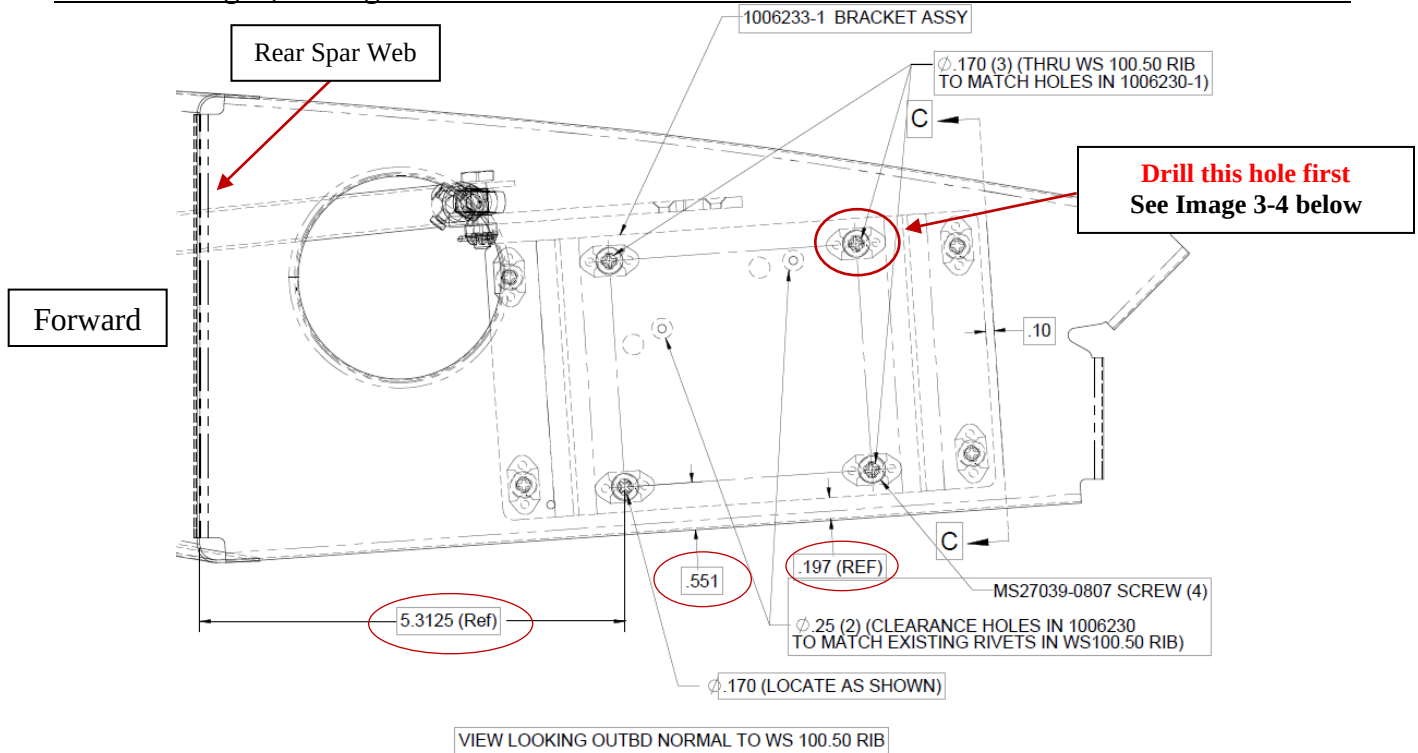

FIGURE 3-4 ROLL SERVO & MOUNTING PLATE INSTALLATION
3. Drill from outside the aircraft as depicted in Figure 3-4.
6. Using the drill template as a guide and a #40 HSS drill bit, center punch and drill the upper aft hole through the WS 100.5 trim piece. Refer to Figure 3-2 and Figure 3-4.
16. The roll servo was drilled with two 0.250" rivet clearance holes for the trim piece riveted to WS 100.5. Refer to Figure 3-4 and 3-6.
2. Secure the Pitch Servo Mounting Tray, to the ZEE Angles, using four (4) Silver 3/32" P Series Cleco Temporary Fasteners. Refer to Figure 3-4 & 3-5.